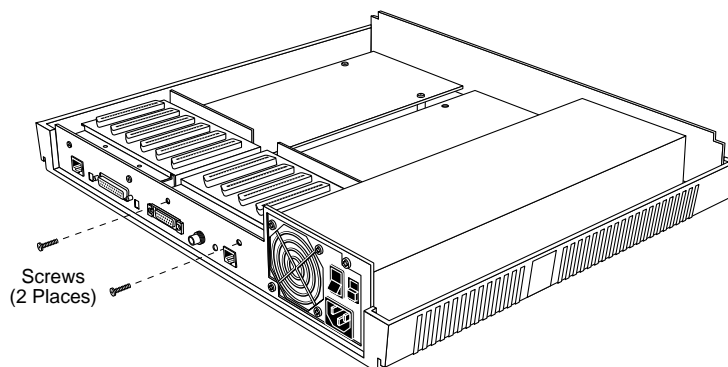

Figure C-7. Securing the SLC to the Rear Panel
- 3 Secure the SLC to the rear panel using two pan-head Phillips screws (see Figure C-7).